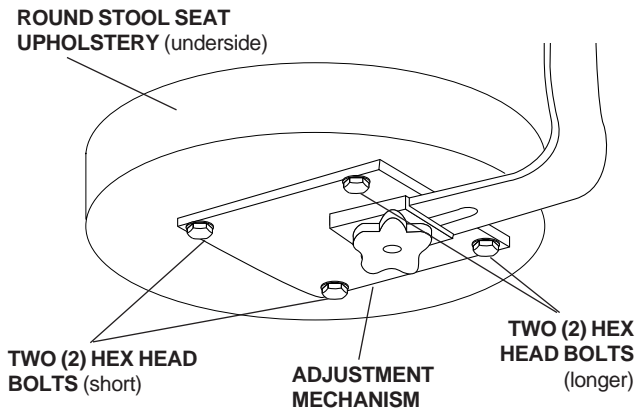

FIGURE 9
- Place the two (2) white spacers over the two (2) back threaded inserts.
- Place seat upholstery on the adjustment mechanism (see Figure 9). Align the slots with the holes in the spacers. When properly aligned, the backrest adjustment knob will extend beyond the back of the seat cushion.
- Insert the long hex head bolts through the washers (see Figure 9). Loosely thread the bolts into the seat assembly. Do not tighten the bolts.
- Insert the short hex head bolts through the washers. Locate the threaded inserts in the seat, through the slots in the front of the adjustment mechanism. Do not tighten the bolts until the adjustment mechanism is centered on the seat and all four (4) bolts have been installed. Tighten the bolts.